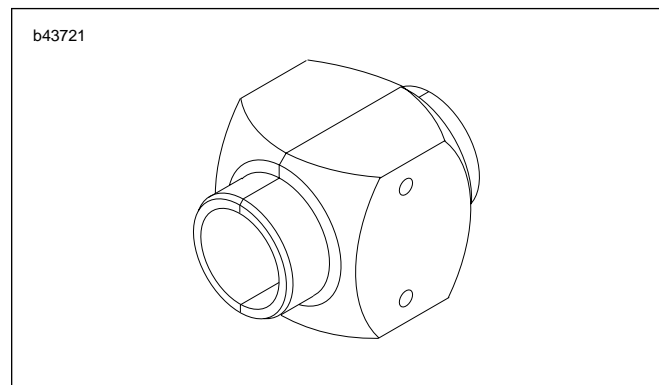

Figure 2-73. Fork Seal Driver (B-42571) 43mm
7. See Figure 2-70. Drive the guide bushing (22) with the seal spacer (23) and oil seal (24) into position in the outer tube using a FORK SEAL DRIVER (Part No. B-43721/41mm) and (Part No. B-42571/43mm). See Figure 2-73.
8. Install the oil seal stopper ring (25) and a **new** dust seal (26).